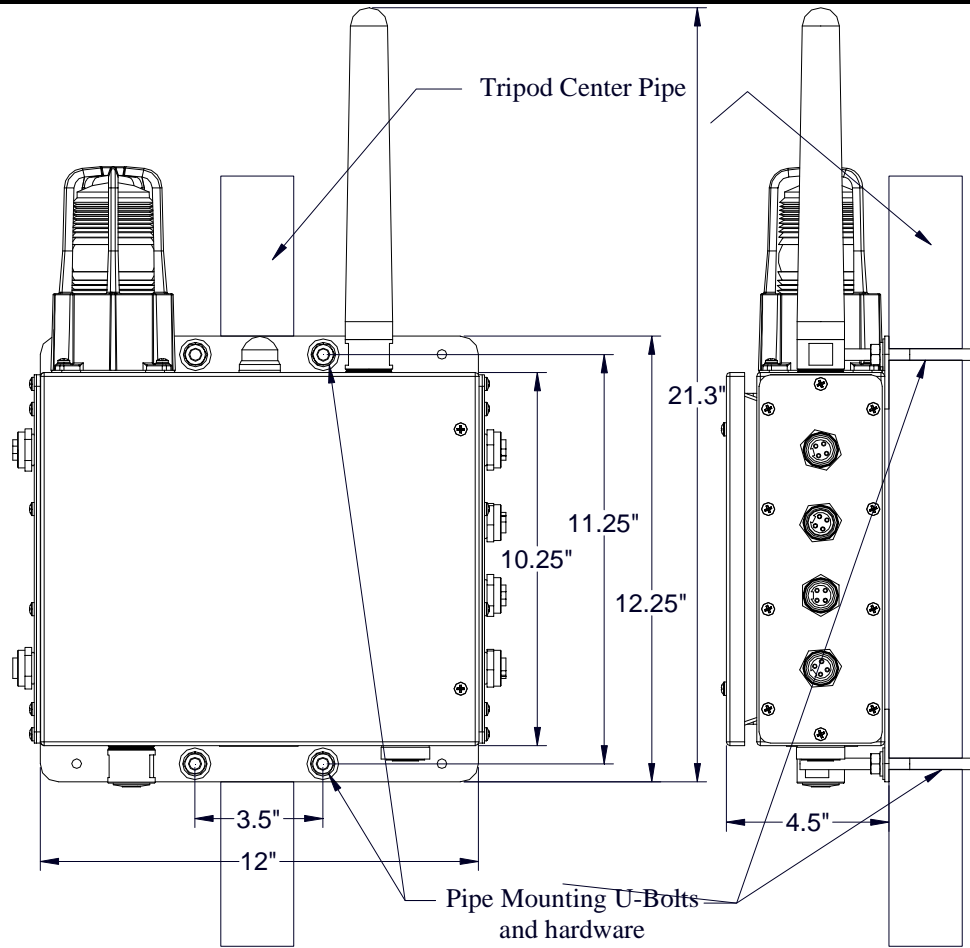

Figure 9 Mount CX on Tripod
2. Mount the CX Sensor Station to the center pipe using the supplied U-bolts in accordance with Figure 9. The height position should be about 4-5 feet maximum to minimize tip-over potential. The U-bolts should be thoroughly tightened such that there is no vertical slide of the controller up or down the tripod center pipe. If it slides it may be a safety issue related to personnel injury.